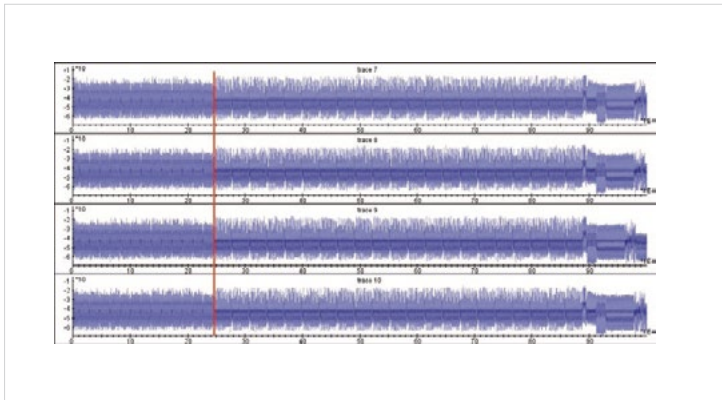

Figure 8 Example of filter out signal with recognisable activity increase at 30 μ s
3. icWaves can now be used as a trigger source. When the reference pattern is detected in the measured signal a trigger pulse is generated in real time. As shown in **Figure 8**, the area of interest is perfectly aligned.